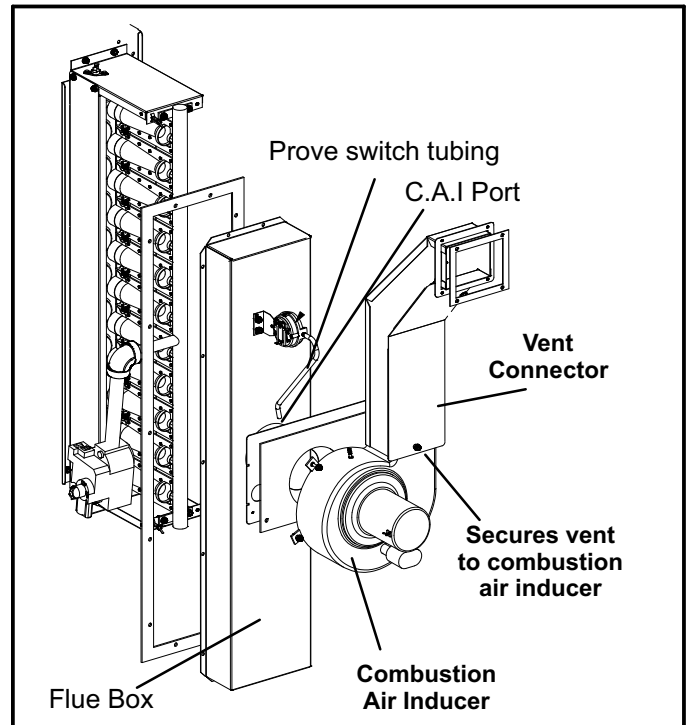

FIGURE 30
- 3- Remove and retain screws securing combustion air inducer to flue box. Remove and retain the screw securing the combustion air inducer to the vent connector. See figure 30.